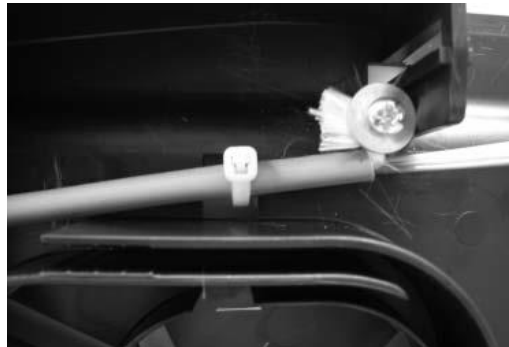

Fig.4
- d) Secure yarn to chassis using the M4 x 8mm screw and 2x12mm washers (Fig.4)
- e) Secure cable inside chassis with cable tie (Fig.4).